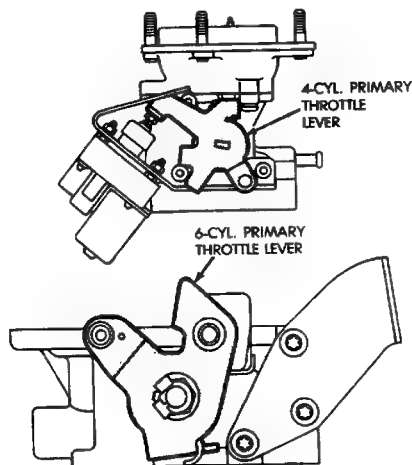

Fig. 30 Rotate Primary Throttle Lever To Wide Open Position
(3) Rotate primary throttle lever to wide open throttle position (Fig. 30).
(4) Hold primary throttle lever in wide open position and let cable plunger extend. Release lever when plunger is fully extended. Cable is now adjusted.